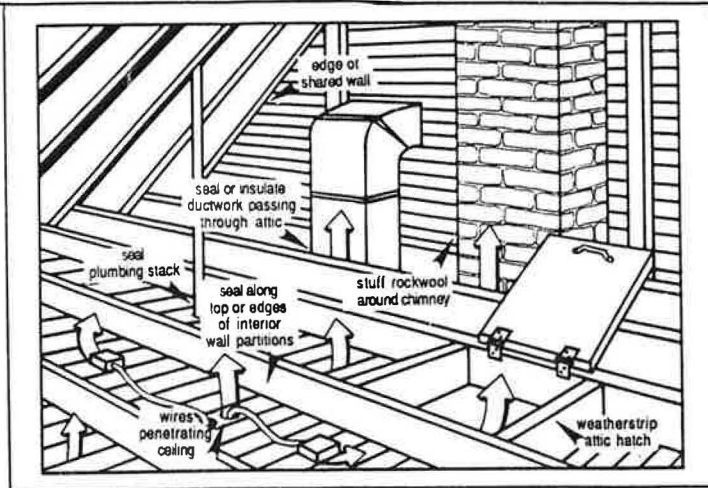

Figure 3. Important places to stop air leaks into attics.
2. Seal leaks in areas of greatest pressure difference. Usually these are leaks into the attic, through the upper floor ceiling, basement, or foundation holes (Figure 3).